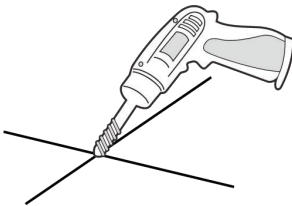

Figure.1
4. After marking, remove the cabinet mounting feet and drill holes at the marked circle positions. Drill holes, with 102-105mm depth, on the ground using an electric hammer.(Figure.1)